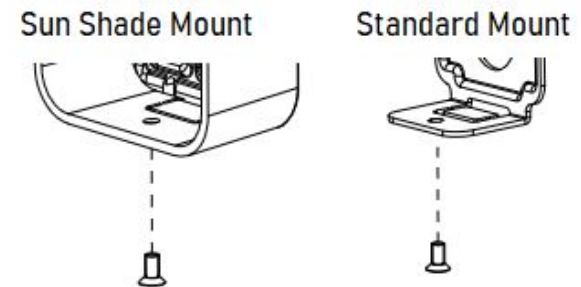

Figure 2-4
Step 3 Install grub screw to hold the Doorbell to the mount. See Figure 2-4.